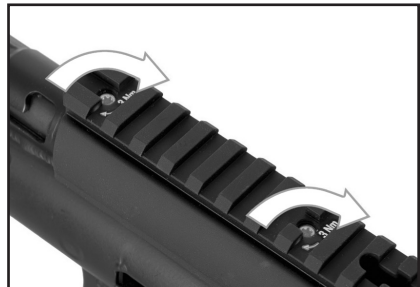

Fig. 44 – Tighten screws
5. Tighten screws for Picatinny rail clockwise with torque wrench until the torque is reached (Fig. 44).